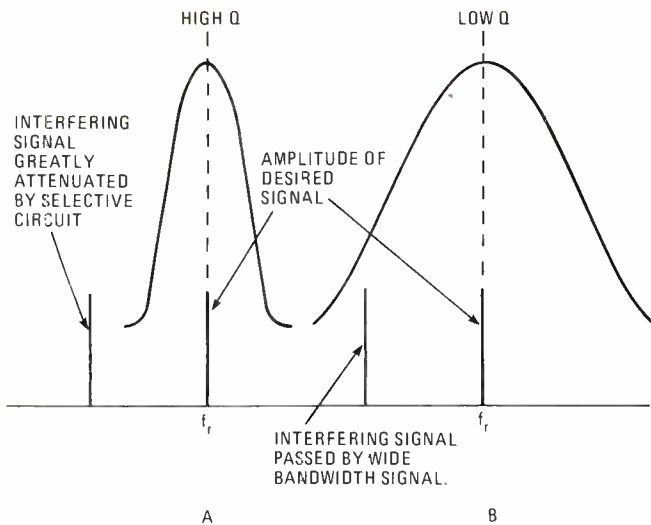

Fig. 8—Selectivity curves of tuned circuits. Curve A is high Q, narrow bandwidth; curve B is low Q, wide bandwidth.
Figure 8 shows the selectivity curves for two different tuned circuits. The first (A) has an extremely narrow pass-